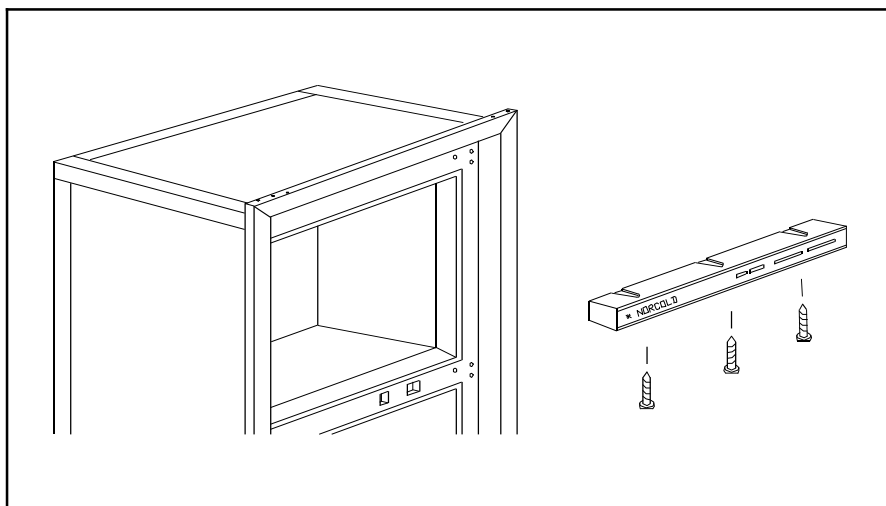

Figure 11.56 Eyebrow Removal
12. If 10 Volts DC is present in the preceding step, continue by removing the Eyebrow assembly from the refrigerator by removing the 3 screws as shown in Figure 11.56.